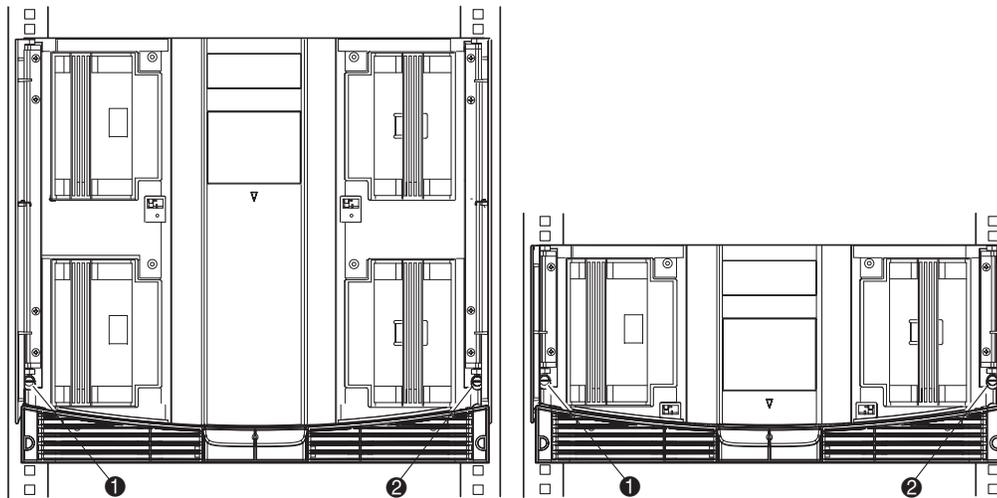

Figure 2–5: Securing the library
10. With the doors open, secure the front panel to the storage cabinet using the two retaining screws (see Figure 2–5). Close the doors.